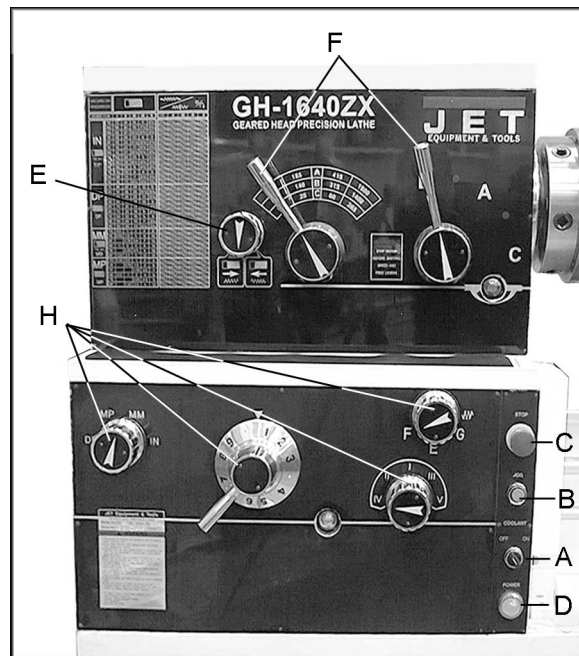

Figure 12
Power is connected properly when rotating the forward-reverse knob (E, Figure 12) to the left position causes the spindle to rotate counterclockwise as viewed from the tailstock. If the chuck rotates in the clockwise direction, disconnect the lathe from the power source, switch any two of the three power leads (not the green ground wire), and re-connect the lathe to the power source.
- **Coolant On-Off Switch** (A, Figure 12) turns coolant pump on and off.
- **Power Indicator Light** (D, Figure 12) is lit whenever lathe is receiving power.
- **Emergency Stop Switch** (C, Figure 12) stops all machine functions (**Caution:** Lathe will still have power). Twist clockwise to re-set.
- **Jog Switch** (B, Figure 12). Quickly press and release to rotate the spindle.
2. **Headstock Gear Change Levers** (F, Figure 12): Located on front of headstock. Move levers left or right to desired spindle speed.
3. **Leadscrew/Feed Rod Directional Lever** (E, Figure 12): Located on front of headstock at lower left. Changing knob changes direction of feed.
4. **Feed/Lead Selector Lever** (H, Figure 12): Located on front of headstock. Used when setting up for threading or feeding.